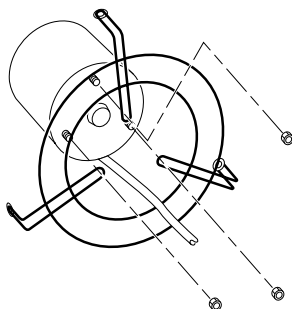

Figure 8 - Removing or Attaching Fan Guard from Motor
5. Remove three nuts that attach fan guard to motor using nut-driver. Remove fan guard from motor (see Figure 8).
7. Attach fan guard to new motor with three nuts. When attaching fan guard to motor, you must position power cord as shown in Figure 8. Tighten nuts firmly.